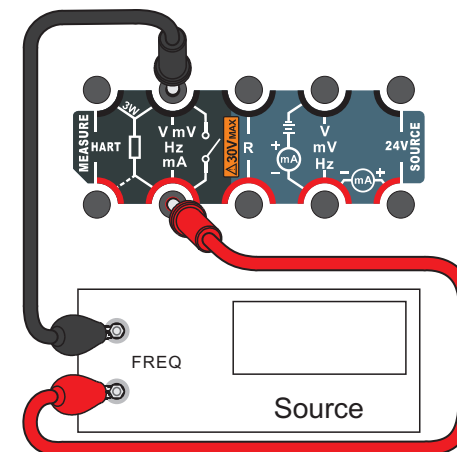

Figure 8.3 Frequency Measurement
1. Figure 8.3 shows the frequency measurement connections.